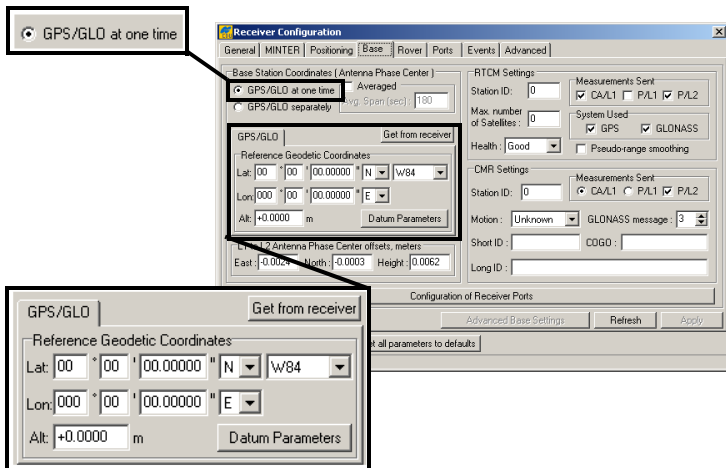

Figure 3-25. Base Configuration
- For the Base receiver, click the *Base* tab, and set the following parameters (Figure 3-25 on page 3-31), then click **Apply**.